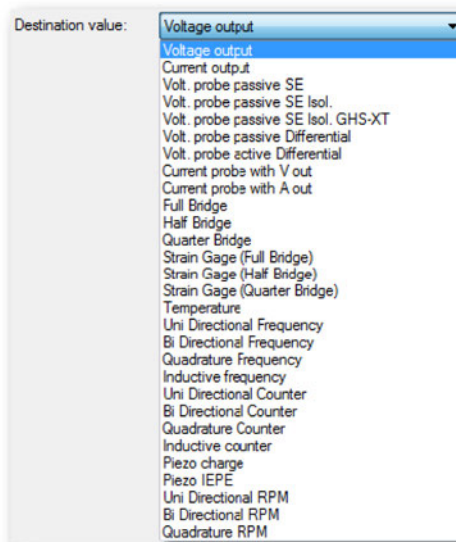

Figure 3.11: Destination value
- 5 Select a sensor type destination value supported by Perception (see Figure 3.11).